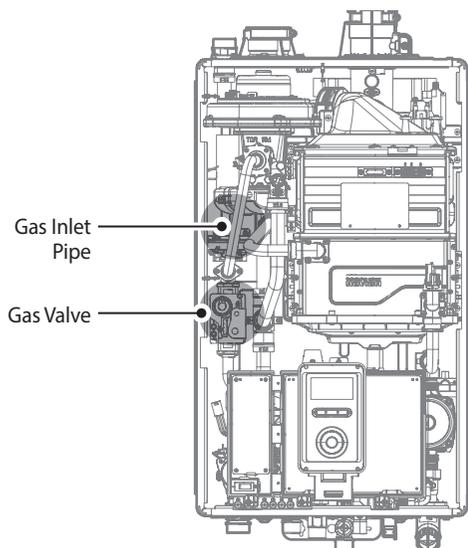

Figure 2. NCB-H Series Internal Components
4. With the internal components exposed, locate the gas inlet pipe and the gas valve in the middle of the unit, as shown in Figure 2.